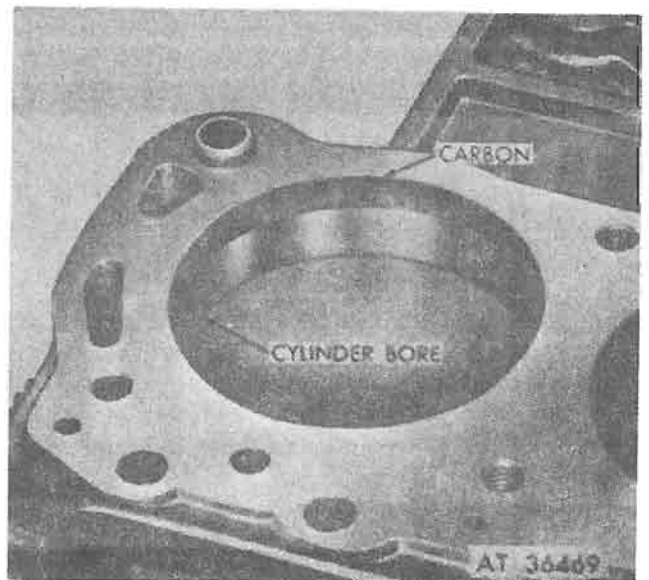

Figure 4-93. Carbon deposits and cylinder ridges.
b. Carbon Deposits and Ridges. Remove any deposits and ridges from upper end of cylinder bores (fig. 4-93).